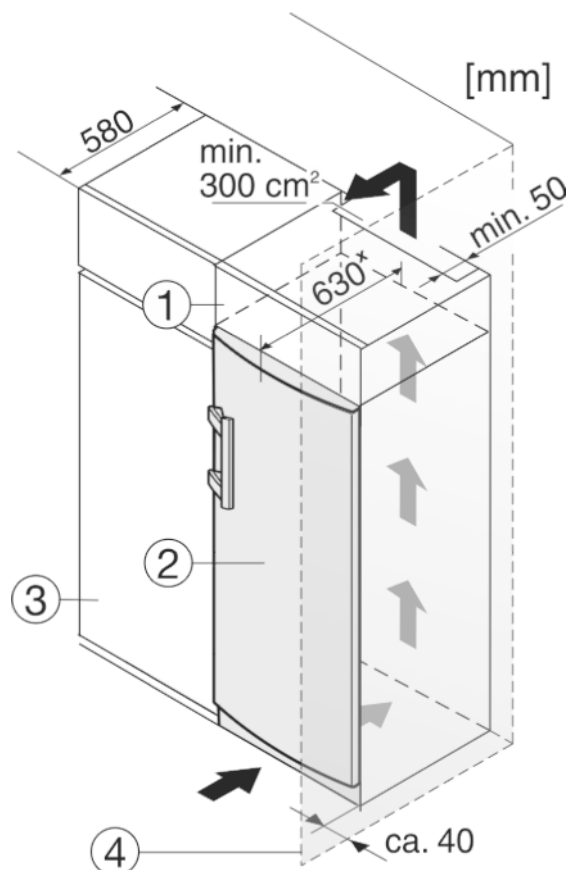

Fig. 14
- (1) Stack cabinet
- (2) Appliance
- (3) Kitchen cabinet
- (4) Wall
The appliance can be built into kitchen units. A top cupboard Fig. 14 (2) can be added above the appliance in order to bring the appliance Fig. 14 (1) up to the height of the fitted kitchen units.
When installing with kitchen units (max. depth 580 mm), the appliance can be positioned directly next to the kitchen cabinet Fig. 14 (3). The appliance will project by 34 mm* at the sides and 50 mm* in the centre of the appliance in relation to the kitchen cabinet front.
If the appliance is installed with the hinges next to a wall Fig. 14 (4), the distance between appliance and wall has to be at least 40 mm. This corresponds to the projection of the handle when the door is open.